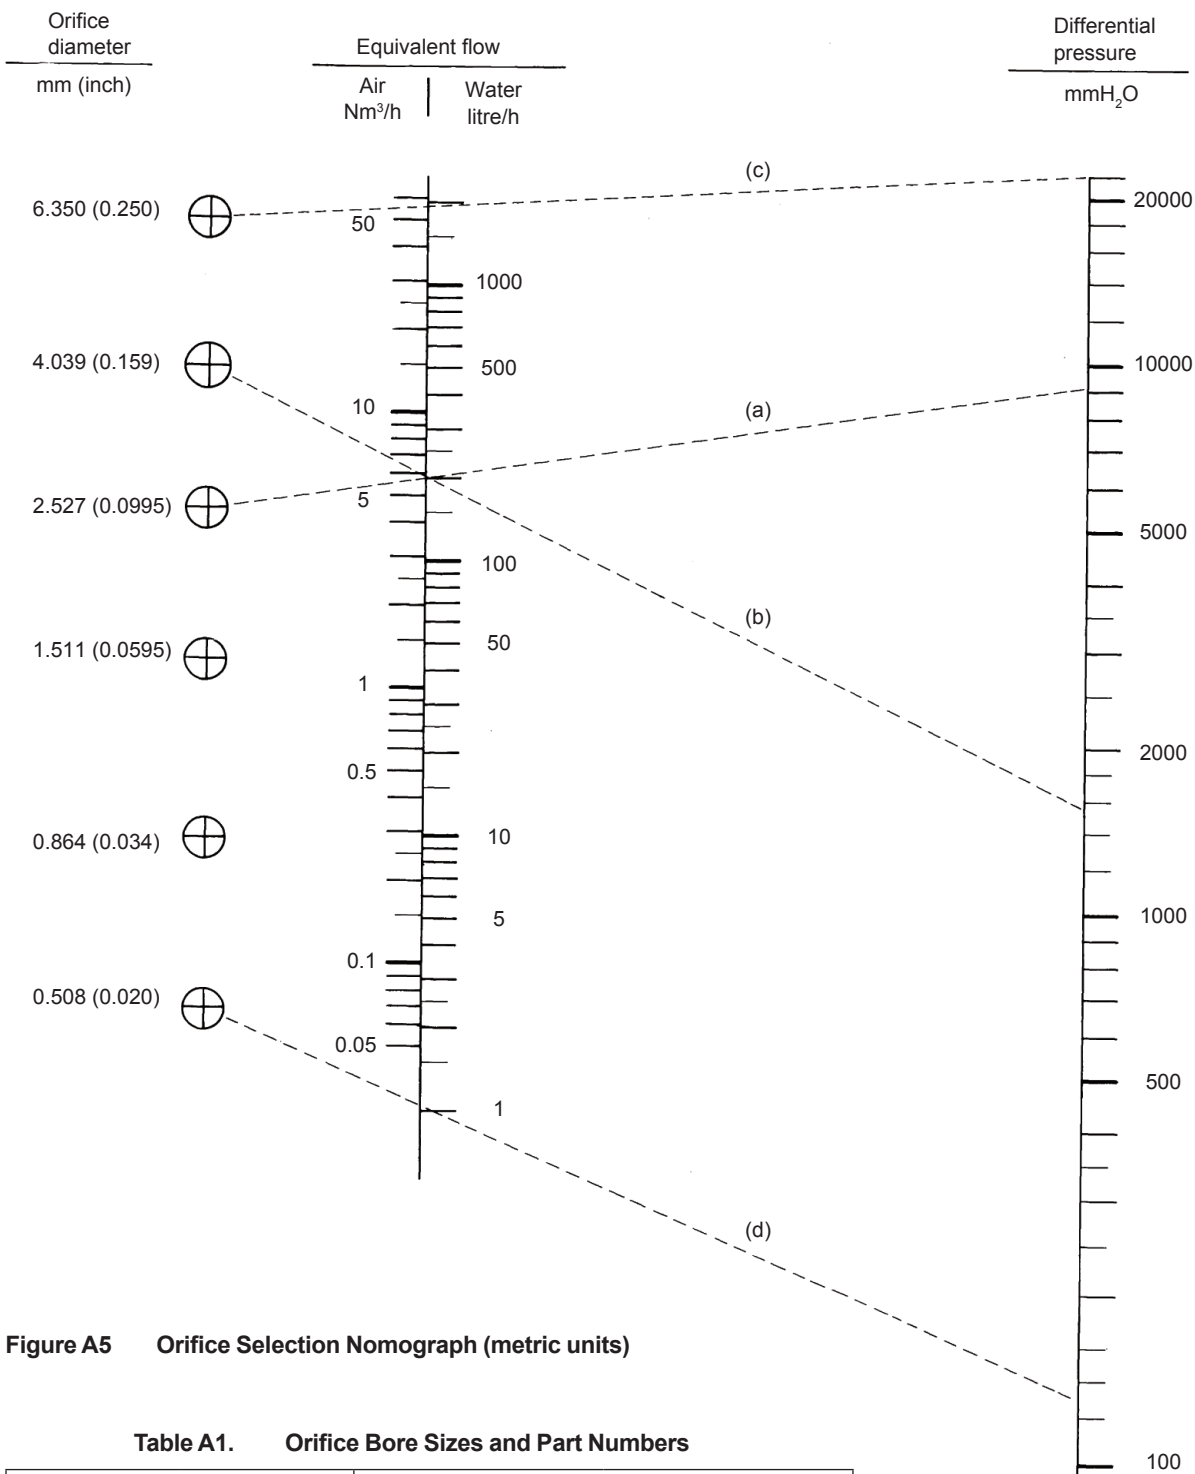

Figure A5 Orifice Selection Nomograph (metric units)
Figure A5 is a nomograph (based on metric (SI) units) and determination of differential pressure for a given flow rate. To use the nomograph all fluid rates must be converted to water or air equivalents at standard temperature and pressure. Equations for approximate conversions are as follows:
(1) Equivalent Air Flow
In Figure A5 enter the calculated flow rate (equivalent air or water flow) on the EQUIVALENT FLOW SCALE and select one of the six orifice sizes. Extend a line from the center of orifice mark through the calculated flow rate value to the differential pressure scale.
Figure A5 shows orifice selection and determination of differential range using a 200 litre/h flow. If a 4.039 mm bore orifice is selected, (dotted line (b)) differential range obtained is 1.58 mH₂O – if a 2.527 mm bore orifice is selected, (dotted line (a)) differential range obtained is 9.2 mH₂O.
The dotted lines (c) and (d) in Figure A5 indicate maximum or minimum flow rate of integral orifices. For flow rate higher than the maximum line (c), an ordinary orifice must be used. For flow rate lower than the minimum line (d), a special integral orifice must be used – for details, contact Yokogawa.